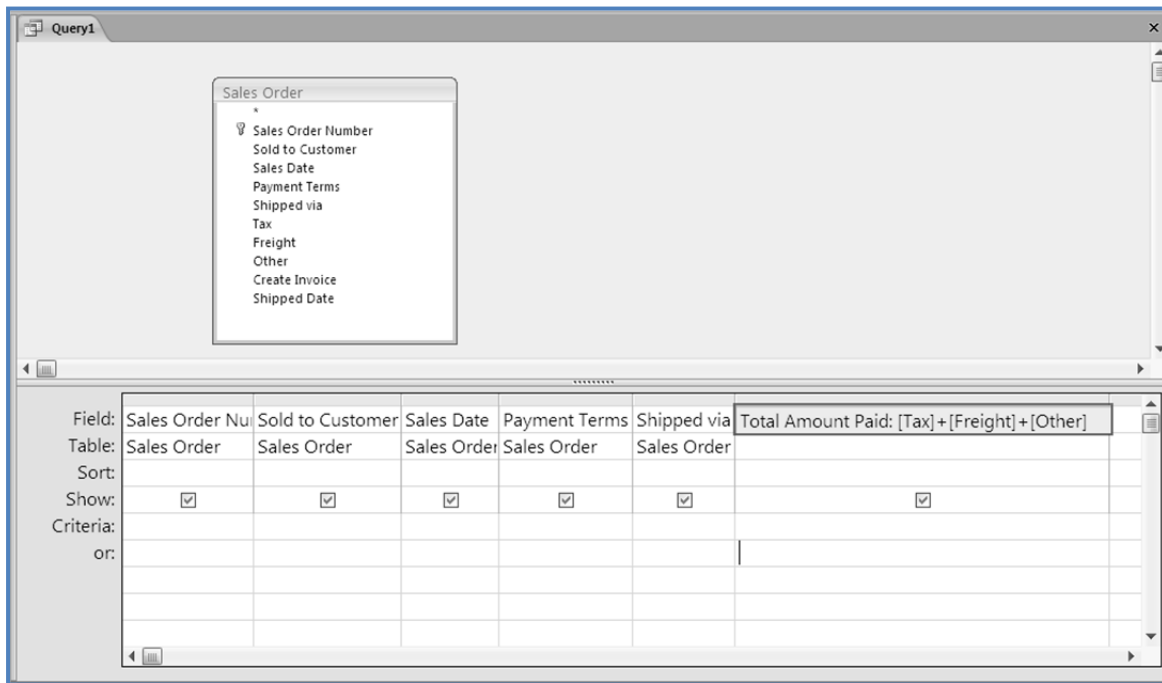

Fig. 1.4.2: Calculated Column - Total Amount Paid
4. To create the calculated column, write the expression *Total Amount Paid: [Tax] + [Freight] + [Other]* in the **Field** tab of the next column as displayed in Fig. 1.4.2.